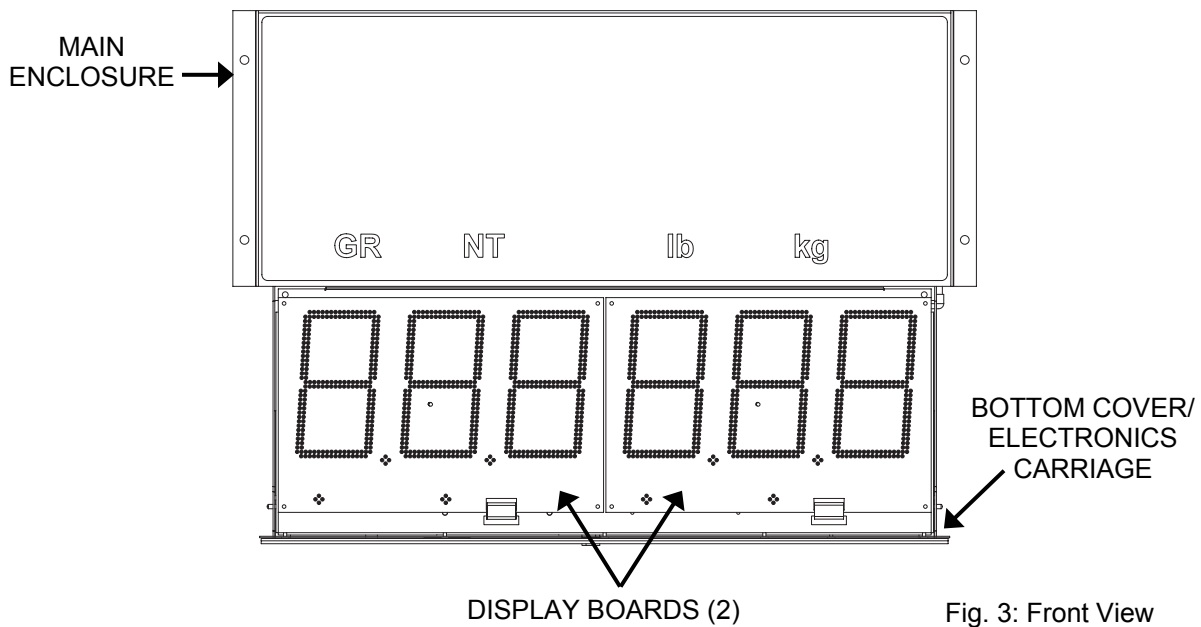

Fig. 3: Front View
4. The Electronics Carriage has tabs on either end that allow it to rest on the Main Enclosure flange when mounted (As seen in Fig. 3 & 4).